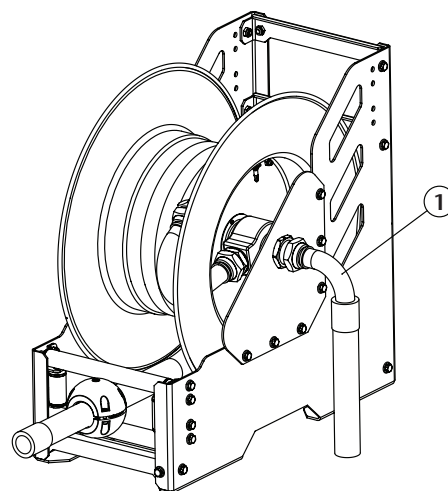

Fig. 10
1. Disconnect the hose of the inlet shaft (1) (fig. 10).